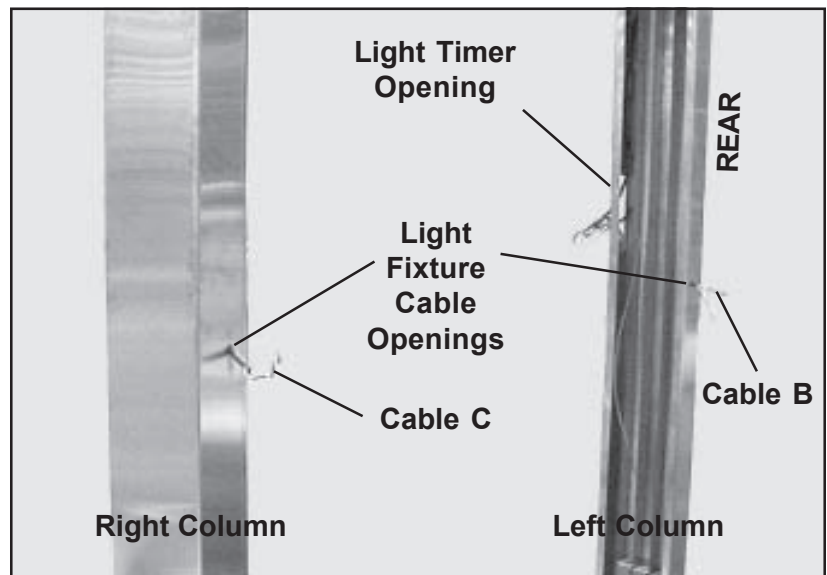

Figure 7. Cables B and C Installed in Columns
4. In the left column, route Cable C behind the pulley assemblies, then down through the light timer opening (Figure 7).
5. In the right column, route Cable C behind the pulley assemblies, to the rear, and down through the light fixture cable opening in the rear (Figure 7).